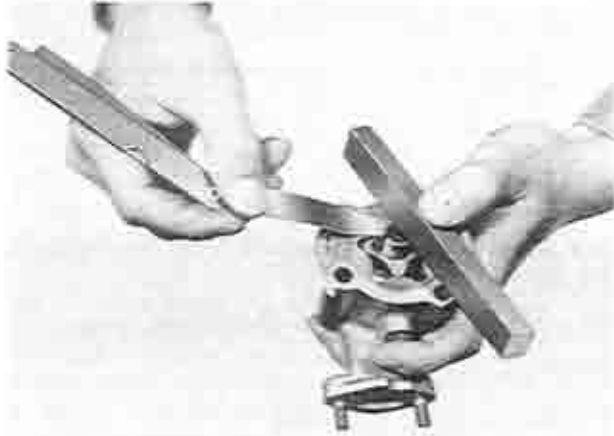

Fig. 2-6 Checking end float of rotors
3. Inspect the end float of the rotor with the feeler gauge as shown in Fig. 2-6. If the end float is too large, make corrections by scraping the pump body. The standard value of the end float is 0.10 ~ 0.20 mm (0.0014 ~ 0.008 in).